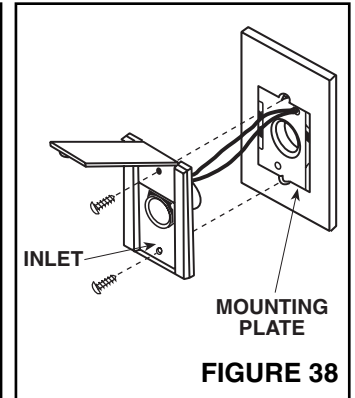

FIGURE 38
6. Refer to Figure 38. Align inlet mounting holes with mounting plate holes, place inlet into mounting plate, and secure with provided screws. NOTE: If 382-S shorter radius elbow is used, it may be necessary to use the short mounting screw to avoid interference with elbow.